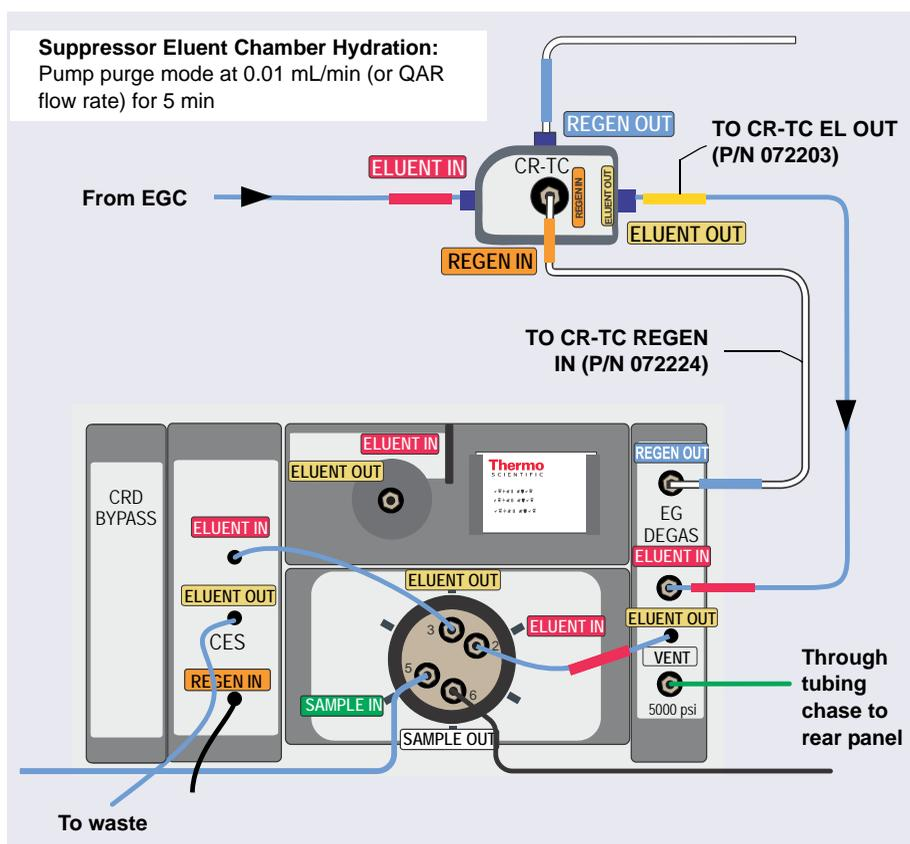

Figure 4-8. Flow Schematic for Hydrating the Suppressor Eluent Chamber in a Capillary IC System
- Connect the plumbing for suppressor hydration as shown in Figure 4-8.